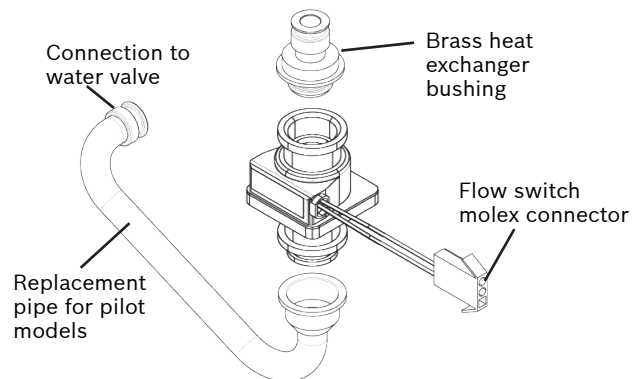

Fig. 9A 1600P/425PN flow switch connections
5. Find and connect the black flow switch to the bushing and pipes shown in Fig. 9A. Secure together with supplied clips.